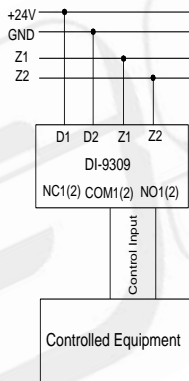

Fig.3
1) Fig.3 shows the input connection with volt-free normally open input.